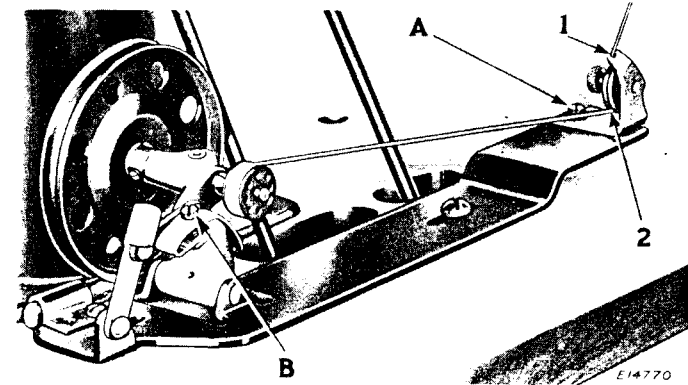

Fig. 6. Winding the Bobbin
(See Fig. 6)
Pass the thread down through the thread guide (1) in the tension bracket, around the back of, and between, the tension discs (2). Then wind the end of the thread around the bobbin a few times in the direction shown in Fig. 6, push the bobbin winder pulley over against the machine belt and start the machine.